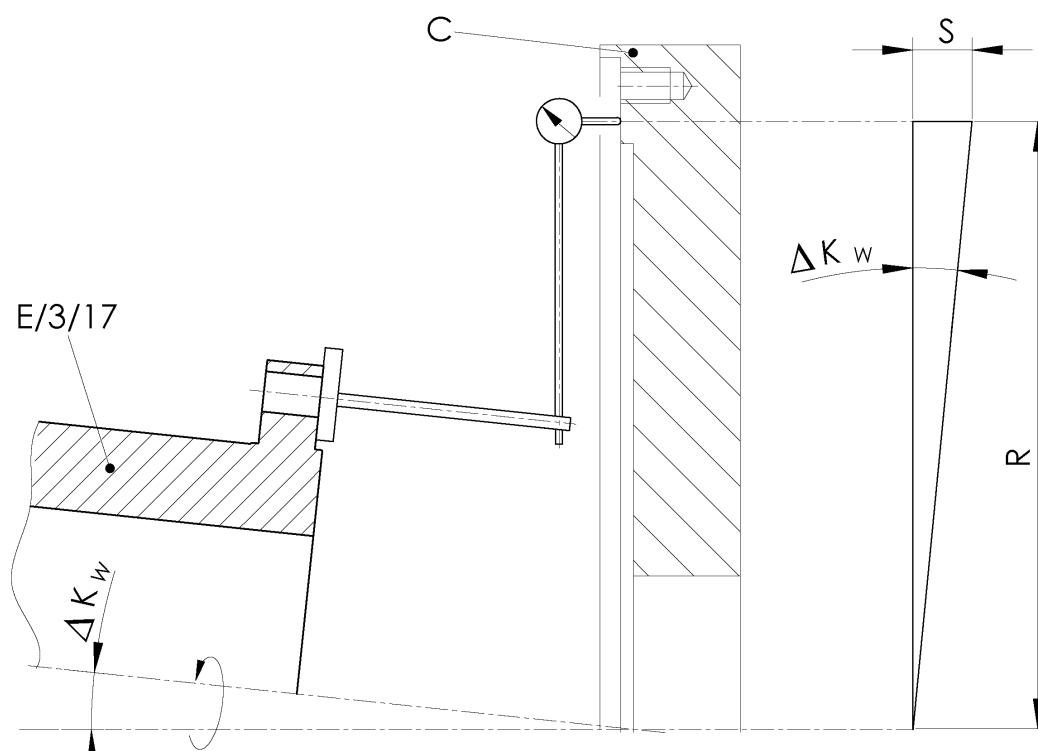

Fig. 5-3 Angular misalignment
- Measure the angular misalignment with a dial gauge (see Fig. 5-3).
- Turn the flange/hub/adapter (E/3/17) with dial gauge and flywheel (B) slowly by 360°.